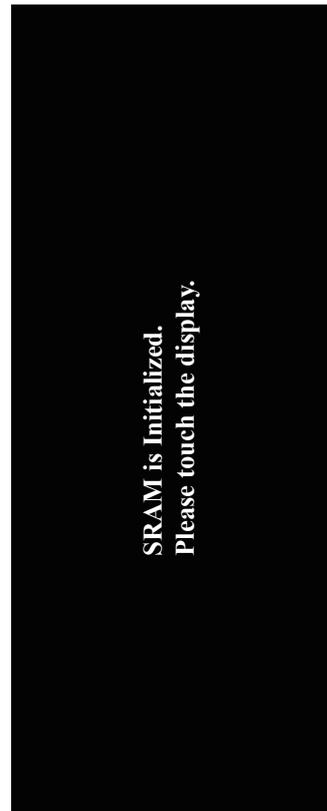

Fig. E-4
- Fig E-4 indicates that the touch screen battery might be depleted.